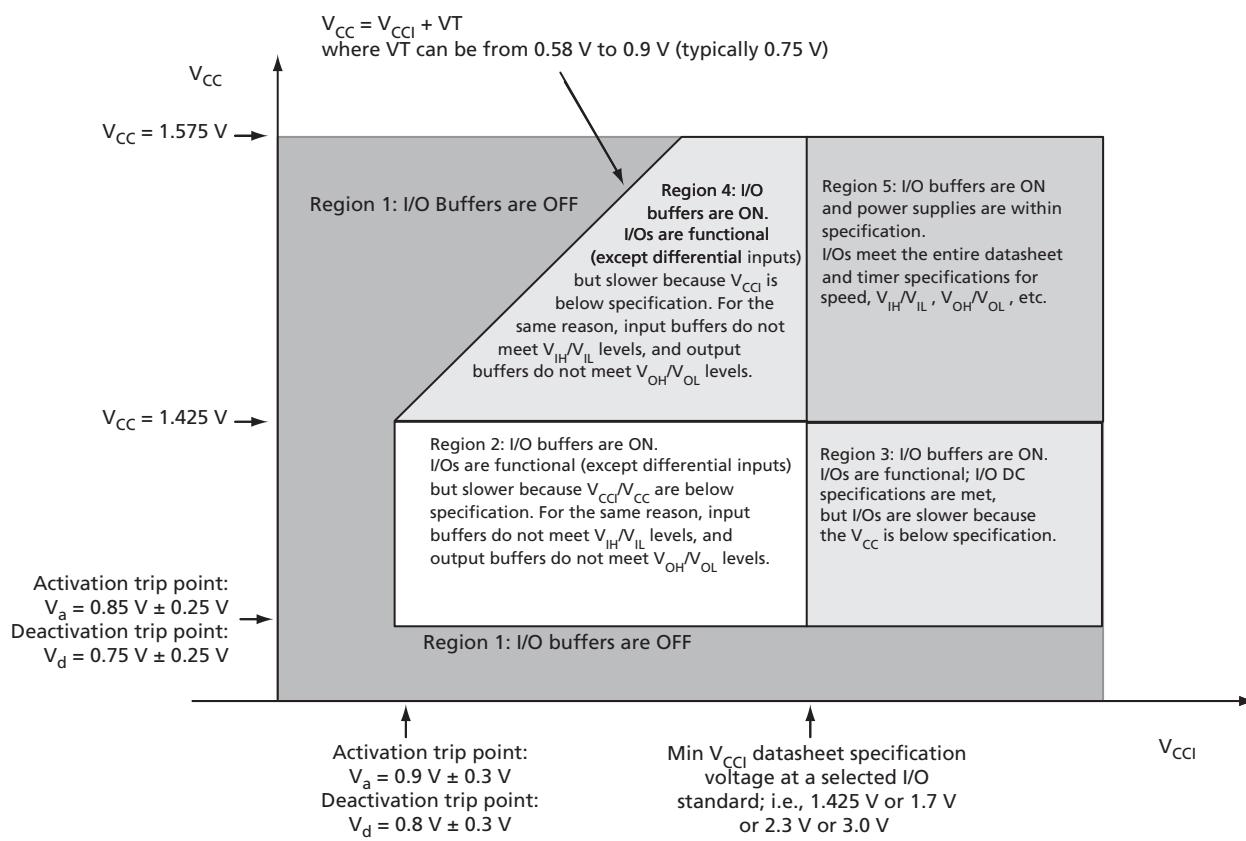
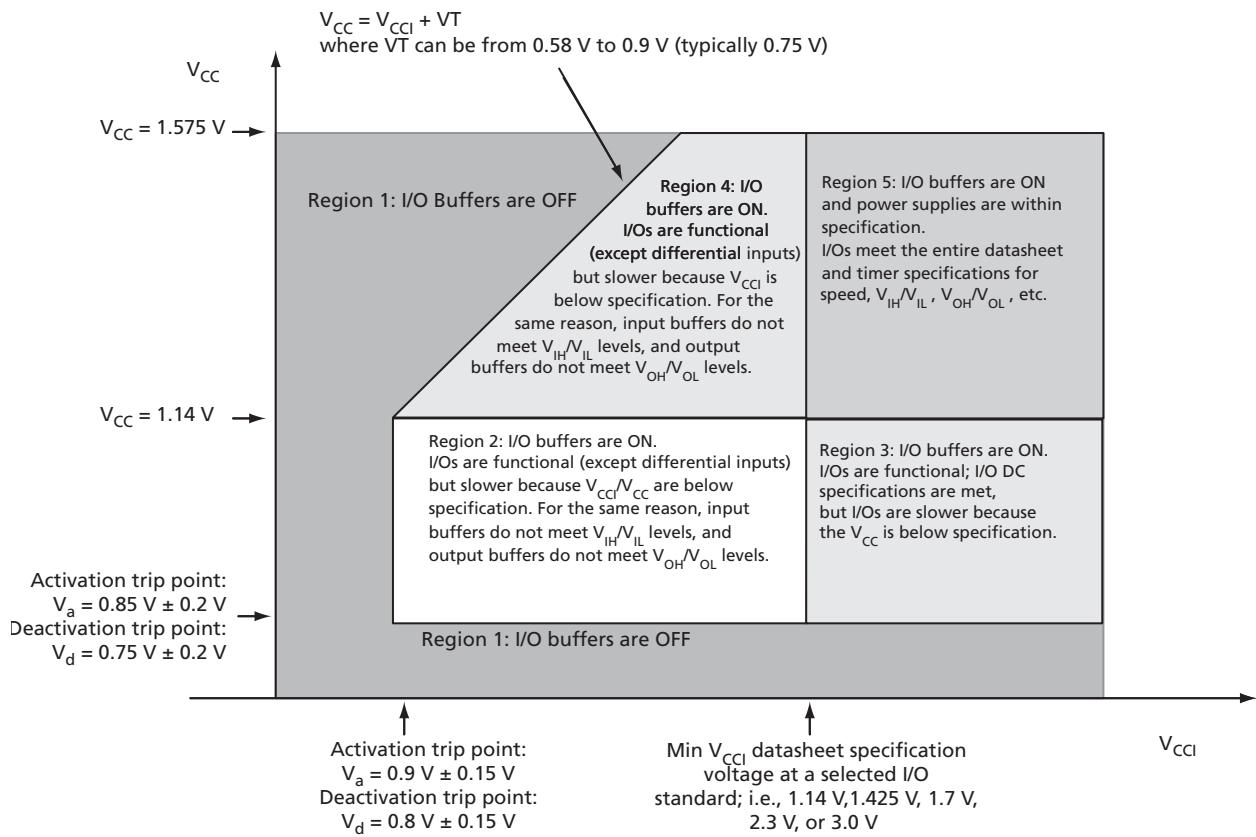

Figure 2-1 •  $V_5 - I/O$  State as a Function of  $V_{CCI}$  and  $V_{CC}$  Voltage Levels
Figure 2-2 • V2 Devices – I/O State as a Function of  $V_{CCI}$  and  $V_{CC}$  Voltage Levels
Sophisticated power-up management circuitry is designed into every IGLOOe device. These circuits ensure easy transition from the powered-off state to the powered-up state of the device. The many different supplies can power up in any sequence with minimized current spikes or surges. In addition, the I/O will be in a known state through the power-up sequence. The basic principle is shown in Figure 2-1 on page 2-4 and Figure 2-2 on page 2-5.
1.  $V_{CC}$  and  $V_{CCI}$  are above the minimum specified trip points (Figure 2-1 on page 2-4 and Figure 2-2 on page 2-5).
Actel recommends using monotonic power supplies or voltage regulators to ensure proper powerup behavior. Power ramp-up should be monotonic at least until  $V_{CC}$  and  $V_{CCPLX}$  exceed brownout activation levels. The  $V_{CC}$  activation level is specified as 1.1 V worst-case (see Figure 2-1 and Figure 2-2 on page 2-5 for more details).